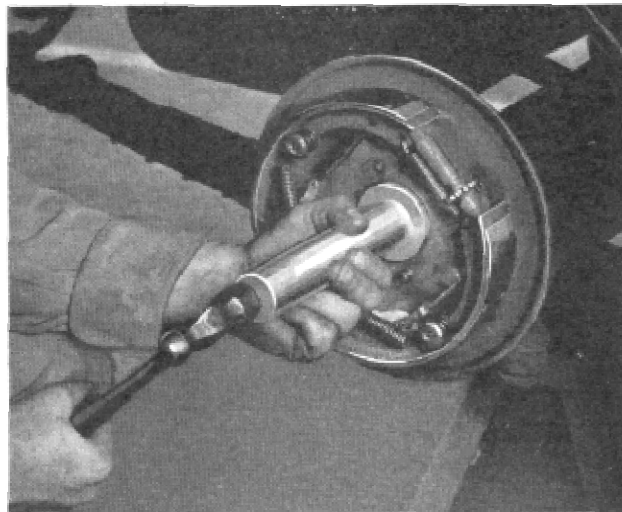

Figure 15
(52) Install new differential carrier to axle housing gasket, placing gasket over studs and against housing.
(53) Place differential carrier and gear set assembly in position and tighten carrier stud nuts. Use lock washers under nuts.
(54) Reassemble rear universal joint to companion flange, using new nut locks. Tighten nuts and bend lock ears over.
(55) Reassemble rear brake shoe assemblies to backing plates.
(56) Assemble brake conduits to backing plates and connect brake cables to operating levers.
(57) Install axle shaft oil seal assemblies, using oil seal replacer J-353-2 (Fig. 15).
(58) Install rear wheel bearing cone and rolls on axle shafts, using bearing replacer J-358.
(59) Install axle shaft and bearing cone and rolls in housing and assemble rear wheel bearing outer cup in axle. Pack bearing with wheel bearing lubricant.
(60) Place rear wheel bearing adjusting shims (42) between adjusting cap (39) and end of housing. Draw up nuts (44) tightly, using lock washers under them.